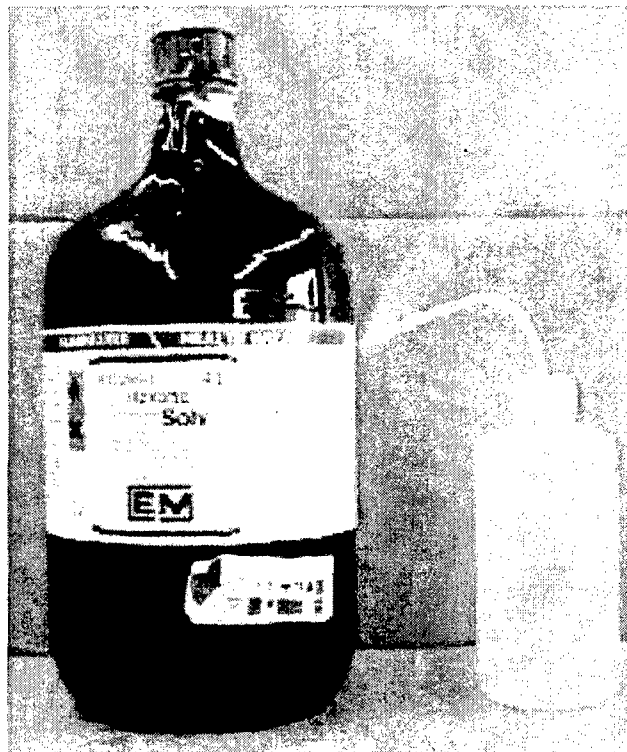

Figure 6-5-3. Reagent hexane and teflon bottle.
2. Rinse each piece of the sample module with the reagent grade hexane contained in a Teflon squeeze bottle (see Figure 6-5-3).